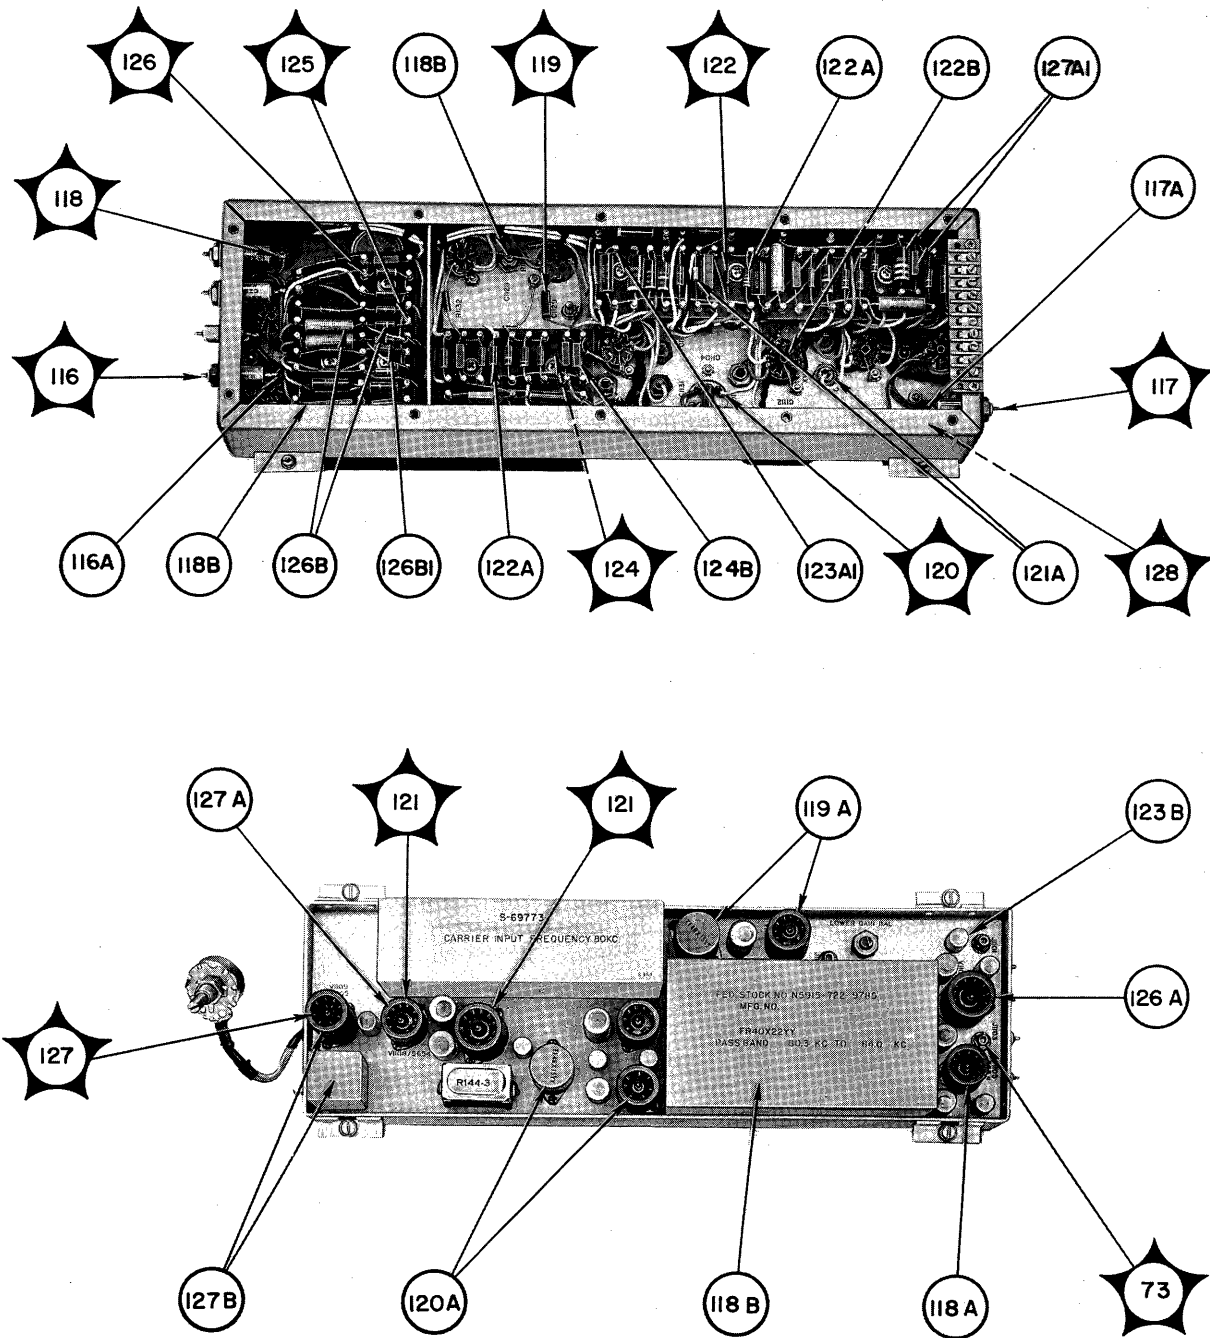

Figure 5-73. LSB Detector-Amplifier, Location of Test Points
*b.* ACCESS.—The LSB detector-amplifier is located in the lower demodulator deck. Raise the upper deck for access to the top; tilt the whole drawer for access to the bottom. Figure 5-72 shows the location of parts and figure 5-73 the location of test points.
- (1) Seating of tubes V1101 through V1109 in their sockets
- (2) Cable connections at J1101, J1102, J1103, and TB1101
- (3) Soldered connections at chassis feed-through terminals
- (4) Mechanical operation of panel controls A.F. LEVEL LINE A, A.G.C. LOWER ON/S.S.B./OFF, A.G.C. LOWER SLOW/FAST, and RECEPTION A.M./S.S.B.